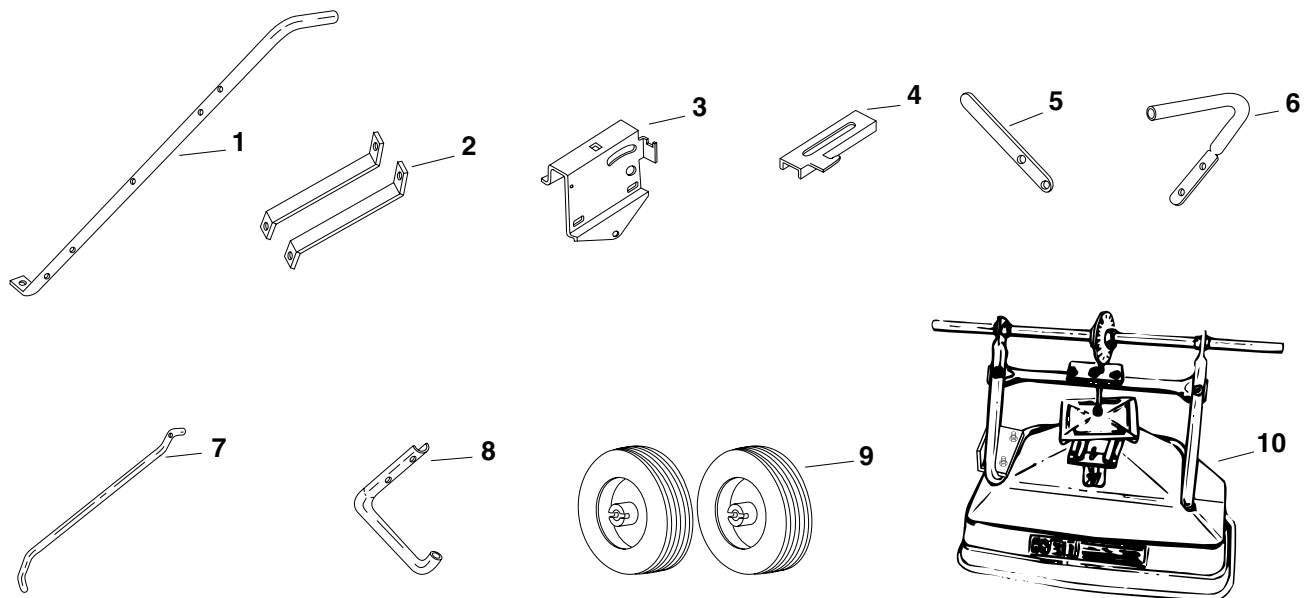

FIGURE 1
Your broadcast spreader carton contains parts as shown in figure 1. The hardware package contains parts shown in figure 2 on page 3. Identify all parts and layout as shown in figures 1 and 2.
1. Remove the spreader, the loose parts and the hardware package from the carton. Lay out parts and hardware and identify. Refer back to figures 1 and 2.